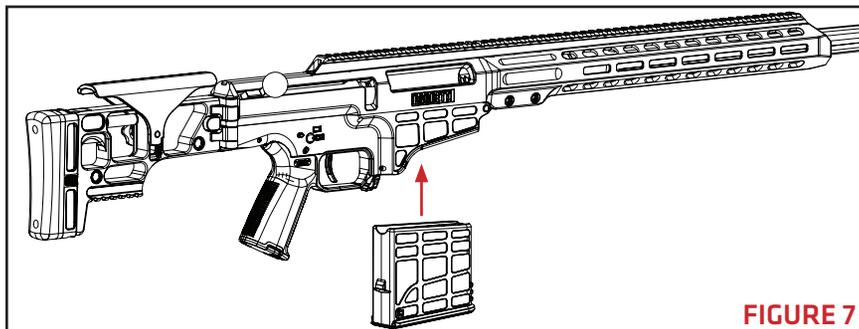

FIGURE 7
4. Insert the loaded magazine into the rifle (FIGURE 7). The magazine inserts into the rifle straight in without hinging or tilting.